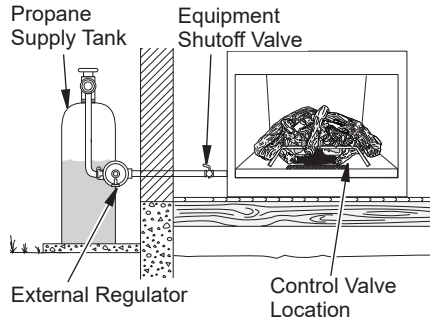

Figure 18 - Checking Gas Joints for Propane Gas
3. Check all joints from gas meter to equipment shutoff valve for natural gas or propane supply to equipment shutoff valve for propane (see Figure 18 or 19). Apply a noncorrosive leak detection fluid to all joints. Bubbles forming show a leak.
4. Check all joints from equipment shutoff valve to control valve (see Figure 18 or 19, page 18). Apply a noncorrosive leak detection fluid to all joints. Bubbles forming show a leak.